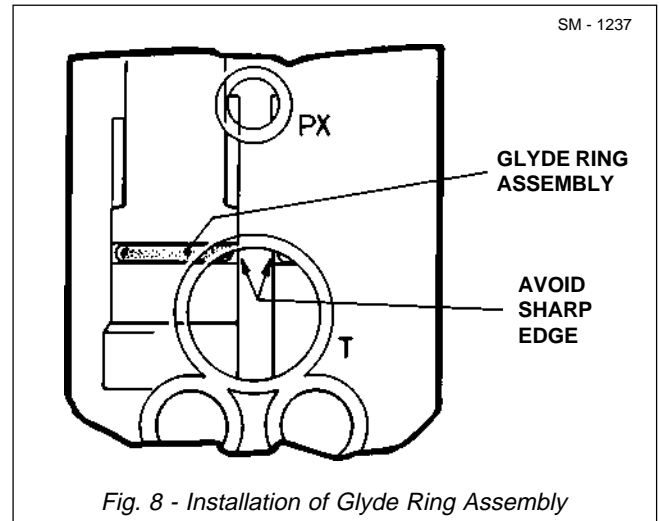

Fig. 8 - Installation of Glyde Ring Assembly
1. Lightly lubricate glyde ring assembly (3) and install the 'B1' actuator plunger (2) into the 'B1' circuit. Be careful not to damage or cut the glyde ring during installation. Observe glyde ring assembly (3) through tank port 'T' as actuator plunger (2) is being installed.
**Note:** It may be necessary to work the glyde rings past the sharp edge in valve body (20) to prevent damage to the seal. Make sure actuator plunger (2) is completely seated and bottomed. See Fig. 8.
3. Install plunger return spring (4), regulator springs (5 & 6) and spring seat (7) into the appropriate circuit. If spring seat (7) does not seat correctly on top of regulator spring (6), lightly shake valve body (20) to correctly position spring seat (7).
4. Lightly lubricate regulator spool (8) assembly and install into regulator sleeve (14). The spherical end of regulator spool (8) should be at the top of regulator sleeve (14). The top of regulator sleeve (14) is the end with the smallest OD.
**Note:** Check to ensure that regulator spool (8) will slide smoothly and freely in regulator sleeve (14). Replace the entire spool and sleeve assembly if the spool does not slide smoothly and freely.
5. Remove regulator spool (8) from regulator sleeve (14) before installing sleeve into valve body (20).
6. Lightly lubricate 'O' rings (10, 12 & 13) on regulator sleeve (14).
7. Install regulator sleeve (14) assembly into the correct circuit of valve body (20). Make sure spring seat (7) is correctly seated in regulator spring (6) before installing regulator sleeve (14). Push regulator sleeve (14) into bore until retaining flange at the base contacts valve body (20).
8. Install spool return spring (15) into regulator spool (8). Install reaction plunger (16) into regulator spool (8). Reinstall regulator spool (8) into regulator sleeve (14).